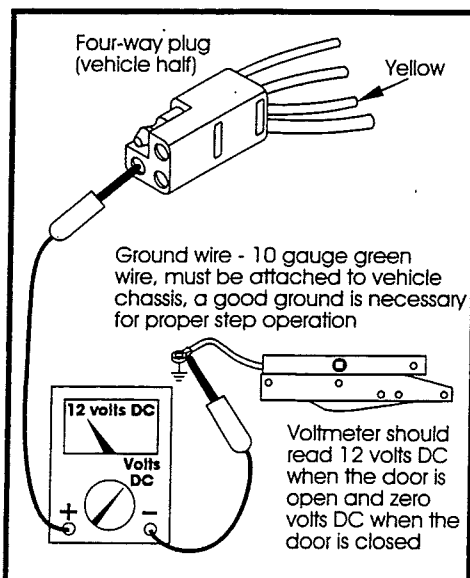

Figure 10
16. To check the ignition override system, connect the voltmeter between the yellow wire from the four-way plug (vehicle half) and the ground terminal on the end of the control unit's 10 gauge green ground wire (see Figure 10). The voltage reading should be approximately 12 volts DC when the ignition is on and zero (0) volts when the ignition is off.